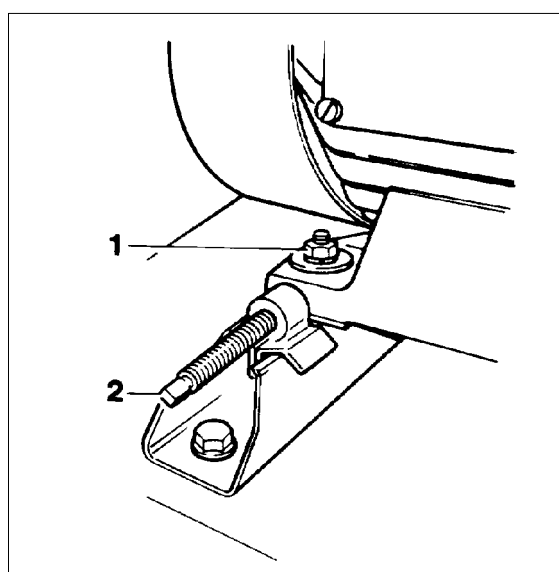
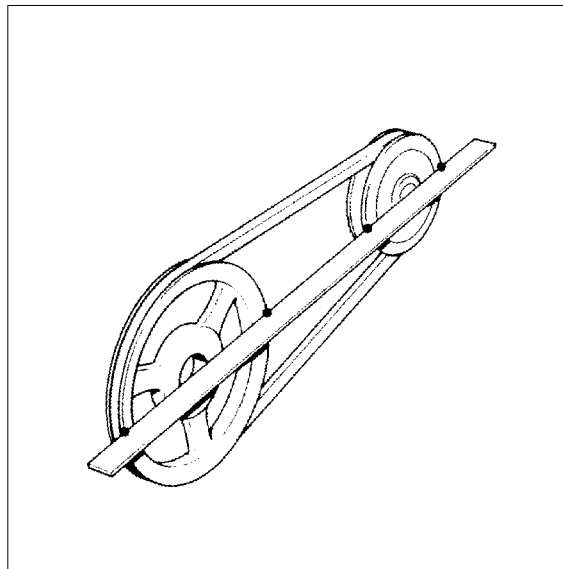

Fig. 34 Motor adjustment
Fig. 35 V-belt pulley adjustment
- Slightly loosen motor mounting nuts (1, Fig. 34).
- Adjust motor by turning the square adjustment screw (2) until the belt tension is correct (see 12.2.)
- Check that after tension adjustment and tightening the motor mounting nuts, both pulleys are in a straight line to avoid excessive wear of the V-belt. Hold a straight edge against compressor and motor V-belt pulleys as shown in Fig. 35.: edge must touch pulleys at four points, otherwise readjust motor.